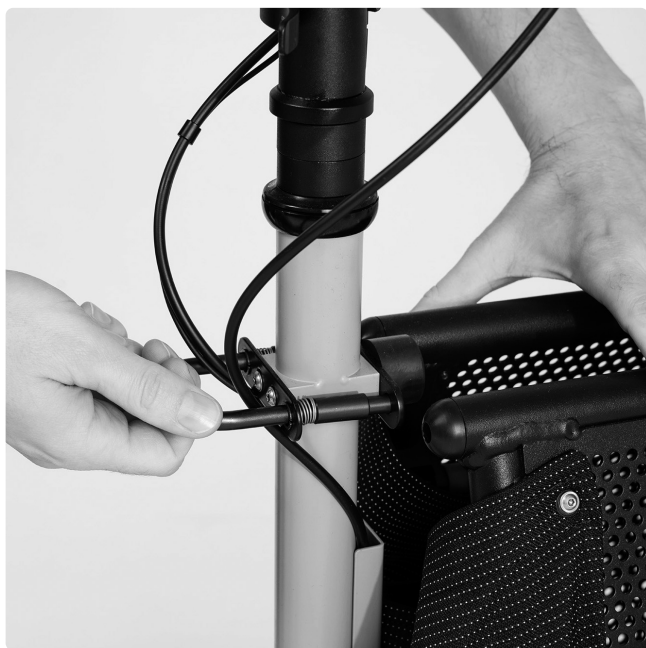

FIG. 52
- To close the basket move the basket wings together, hold the basket wing in one hand and pull the locking bar back with the other hand to then let it snap into both basket wings (Fig. 52).